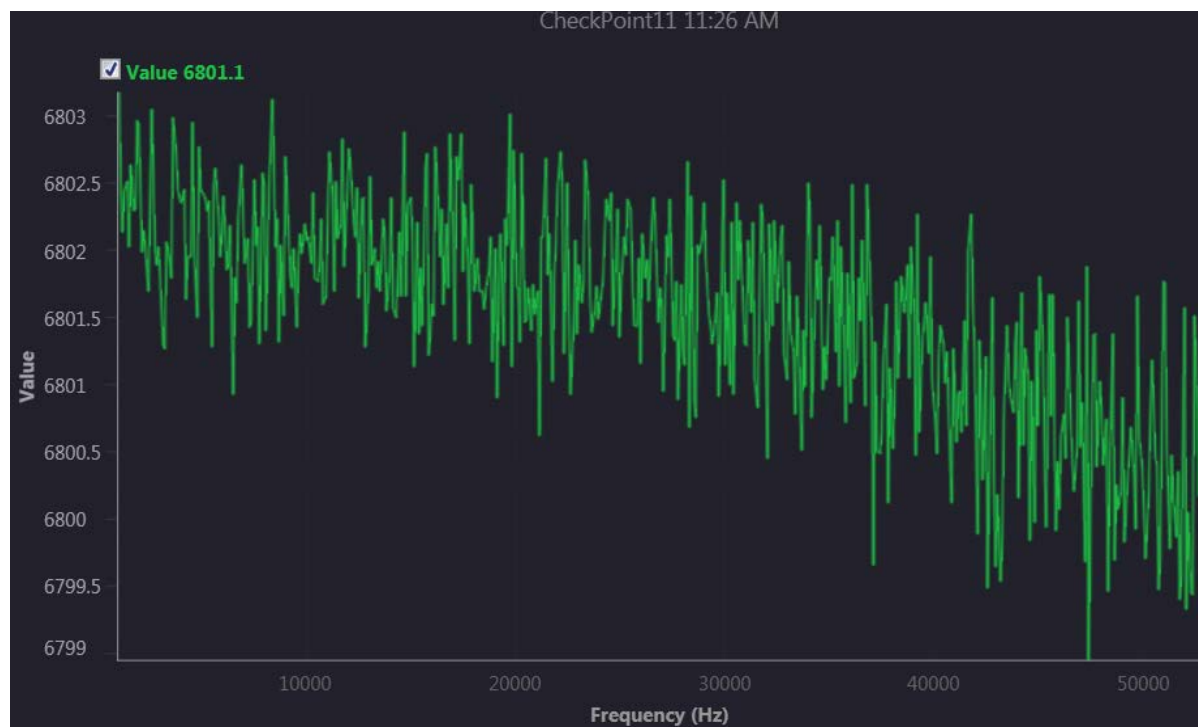

Figure 42. Electrochemical Impedance Validation Test
8. When all data is collected, the resulting graph looks similar to the one in Figure 42. As expected, the impedance of the system decreases exponentially with an increase in frequency.